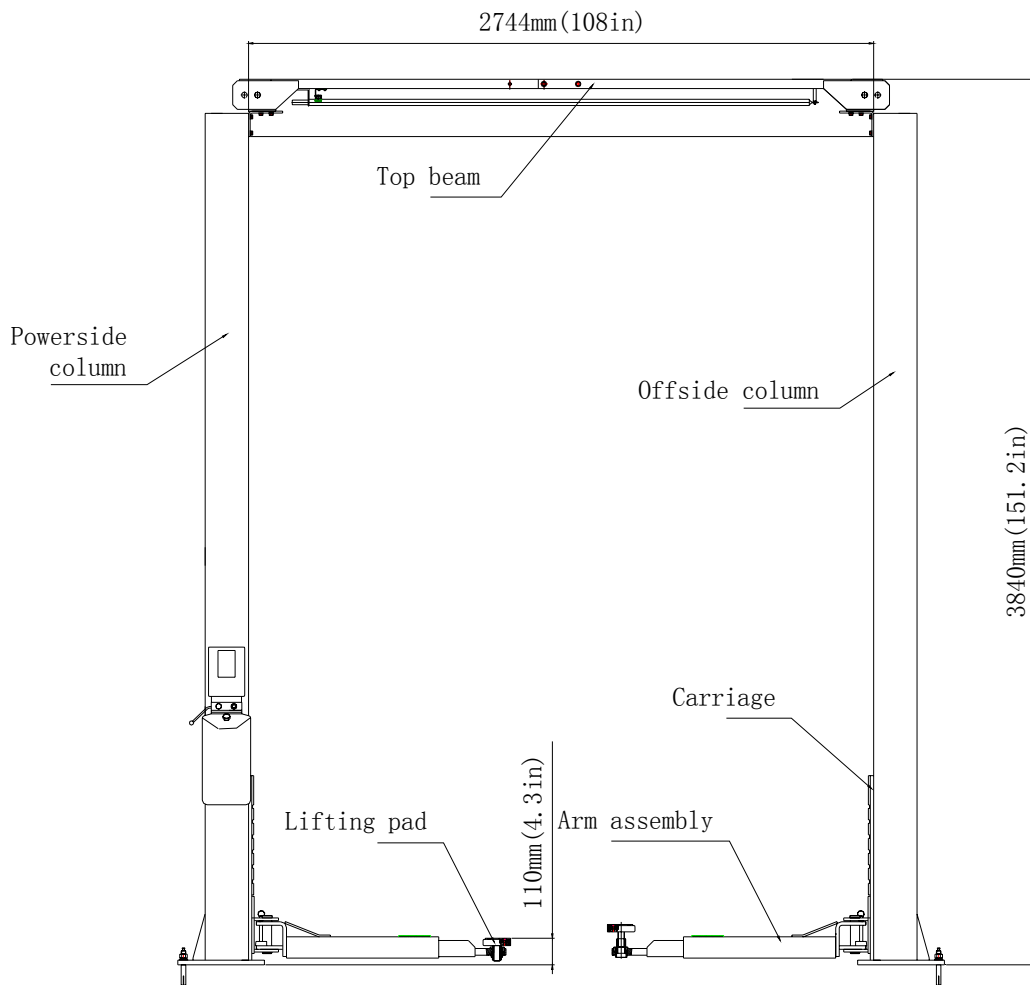
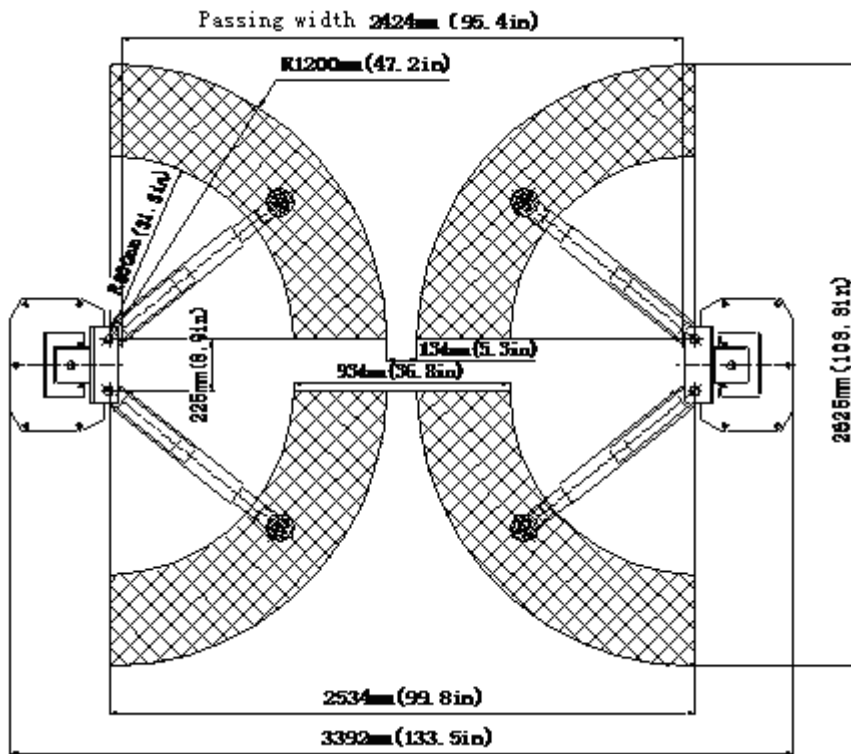
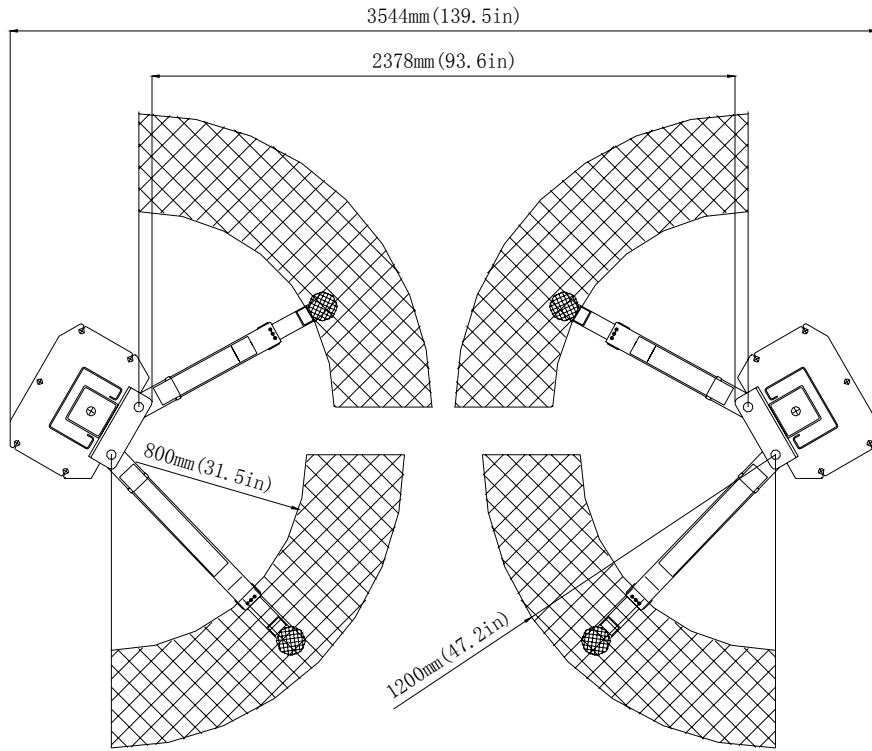

Fig.1a
Fig.2a
Fig.3a
TLT235SC (U) clear-floor 2-post lift	3.5T Economical clear-floor 2-post lift (Fig.1a、 Fig.2a、 Fig.3a)
TLT235SC (U) clear-floor 2-post lift	3.5T Economical clear-floor 2-post lift (Fig.1a、Fig.2a、Fig.3a)